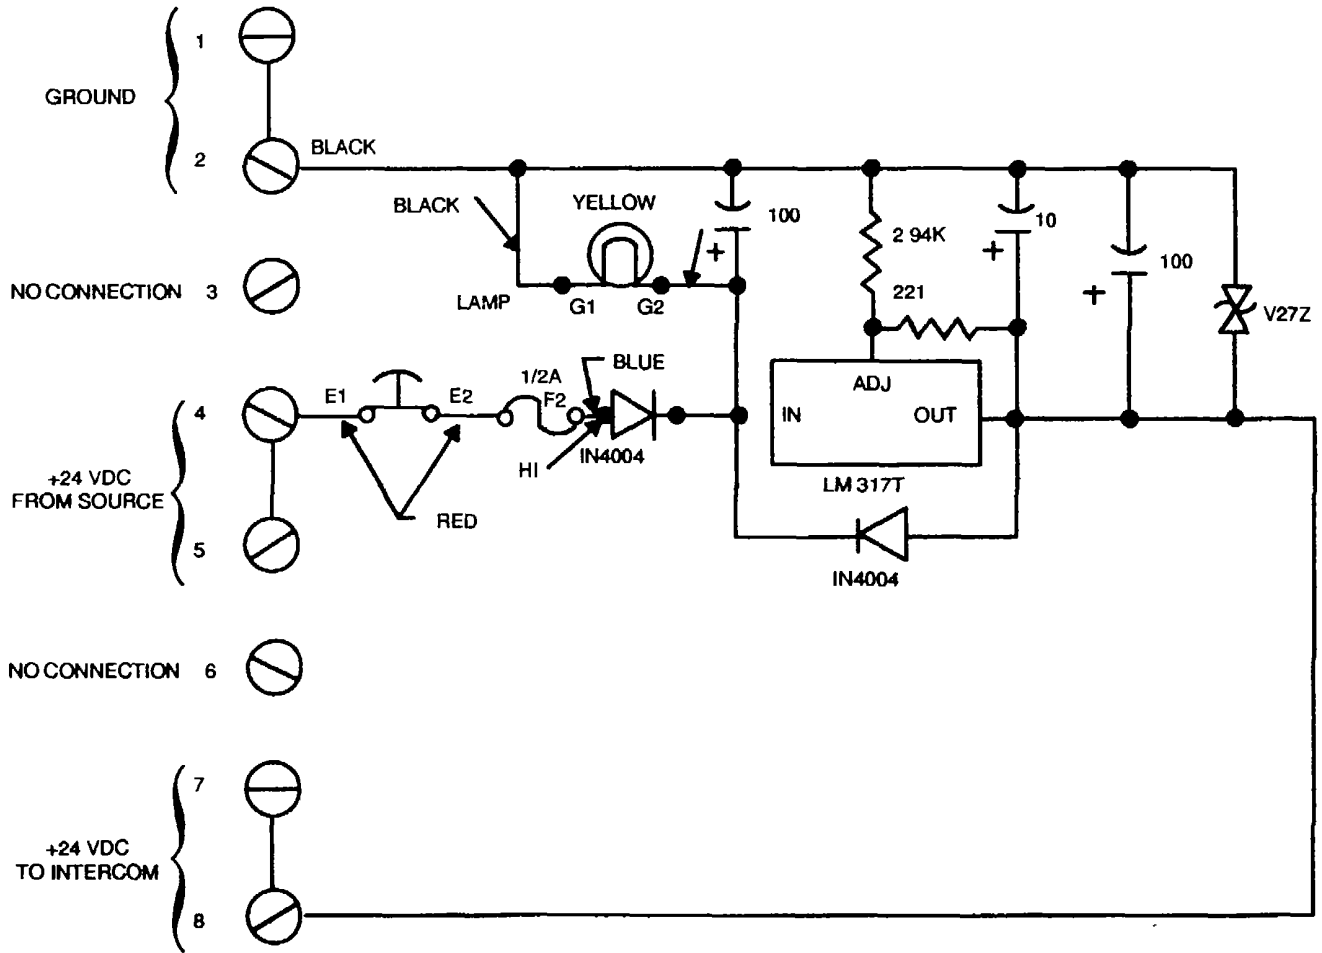

Figure 4-8. Schematic Diagram, Model M3116, Power Control Module
- a. With 24 Vdc circuit breaker 3P14 closed (ON), check for light on ON power control module. If lamp is not lit, check for faulty bulb. If bulb is ok, check voltage at Inputs to power control module between points TB1 and TB4 for 24 Vdc (see Figures 4-8 and 4-9). If voltage is not 24 Vdc, go to step b. If voltage is 24 Vdc, go to step d. If lamp is lit, go to step 1.
- g. Close (ON) circuit breaker 3P14 and check voltage between points TB4 and G1 of lamp for 24 Vdc. If voltage is 24 Vdc, go to step h. If voltage is not 24 Vdc, repair or replace wire from TB2 to lamp point G1.